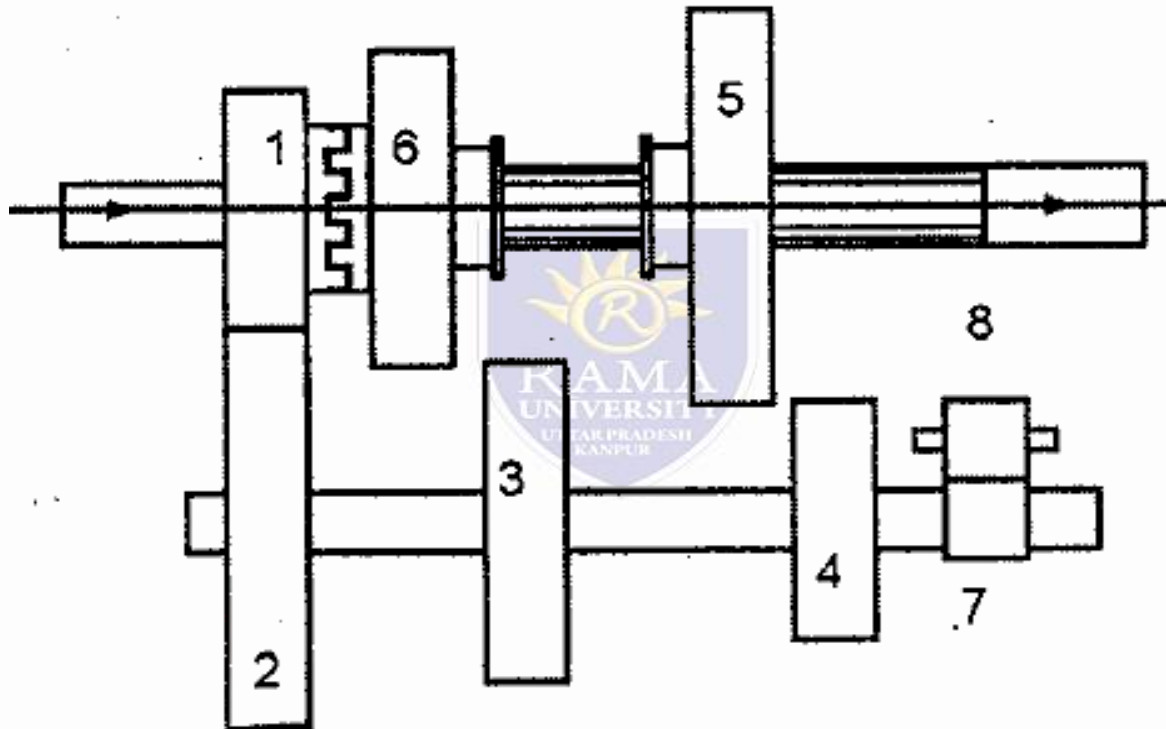

**Figure 3.18 Second gear**
- When the gear shift fork is moved toward direction 2, the second sliding gear (6) will be shifted backward to mesh with the second speed gear (3) but gear (5) and gear (4) are unmeshed. The rotation of input shaft is transmitted in the order (1) ::}(2 ::}(3 ::}(6) to tum the output shaft, as shown in Figure 3.18. It is the transmission in the second speed.